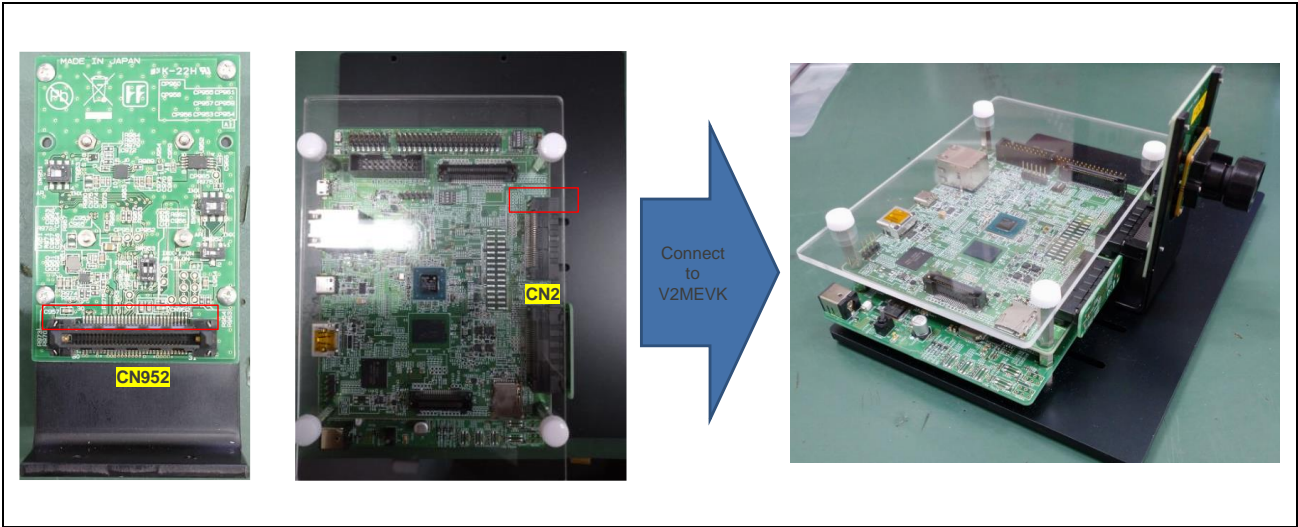

Figure 3.1-4 Connect FSM Adapter Board to V2MEVK (FSM-AR1335)
- Connect CN952 on FSM Adapter Board to CN2 on RZ/V2M Main Board (See **Figure 3.1-4**)